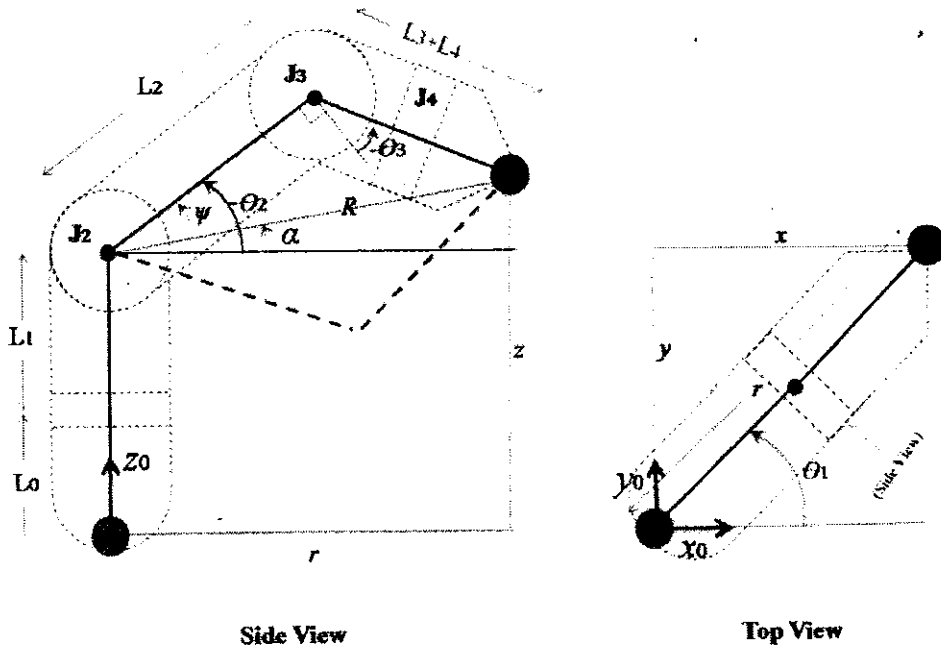

Figure Q4(b)
- b) Figure Q4(a) shows the 2D top view, and side view schematics of the 4-DOF MICO robot manipulator.